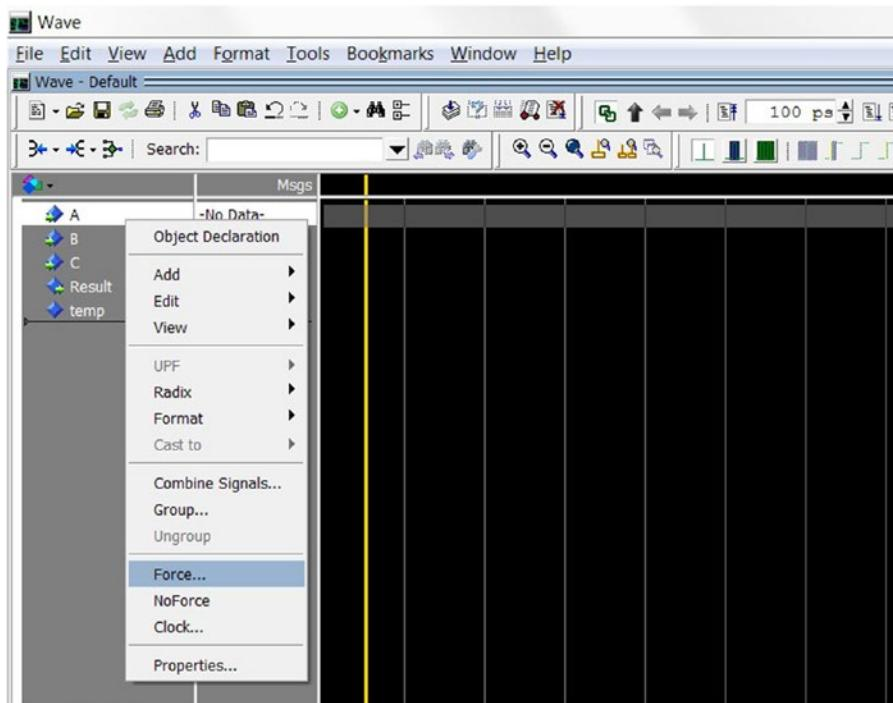

Figure 8-17. Force signal A to high (1)
11. Right-click A signal and select **Force....** Force Selected Signal window pop-up (Figure 8-17). Change the Value from U to 1 (Figure 8-18) and click OK. Or type **force -freeze sim:/boolean_algebra_example2/A 1 0** in the transcript (tcl window).